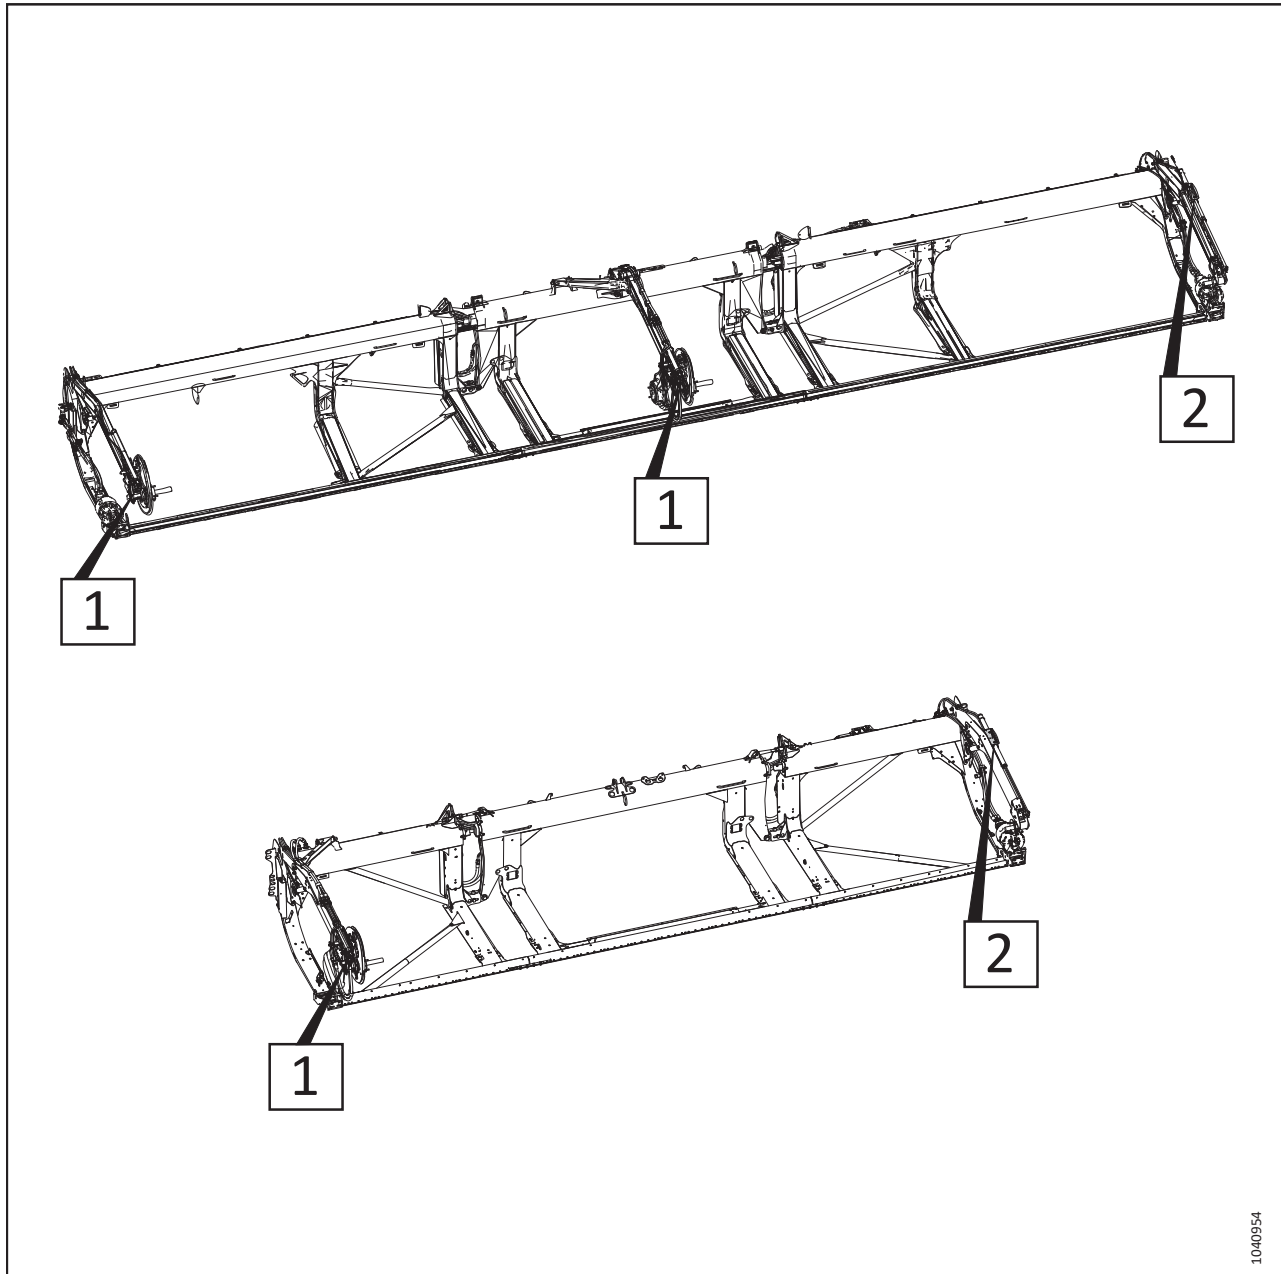

Figure 3.271: Adjustable Fore-Aft Cylinders – Procedure Reference Numbers
5. Refer to Figure 3.271, page 199 to determine the fore-aft cylinder adjustment procedures for your header type. The number on the illustration refers to one of the following procedures: